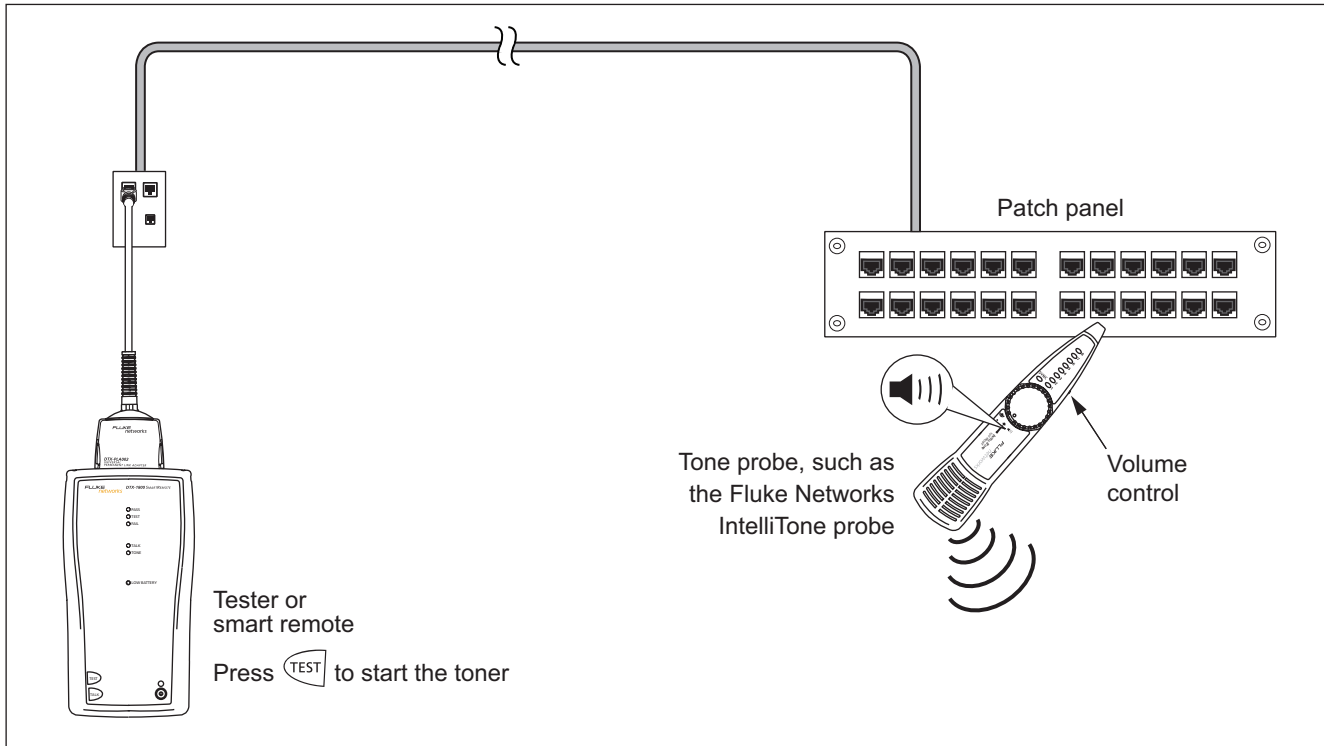

Figure 3-26. Using the Tone Generator
- 2 Connect the tester or smart remote to the cabling as shown in Figure 3-26.